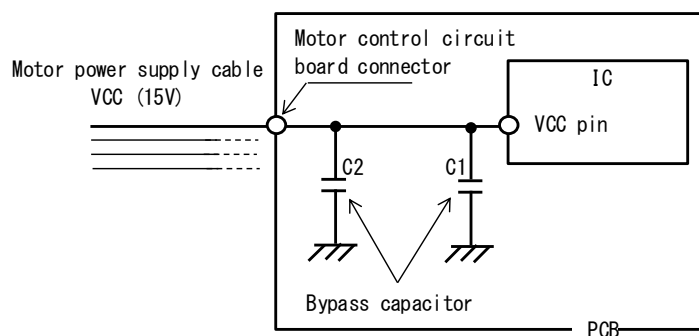

FIGURE 5.5.1 Example of Mounted Surge Suppression Devices
- ① Mount a bypass capacitor C1 near the pin of the IC. Use a capacitor that has excellent frequency characteristics, such as a ceramic capacitor. As a guide, a capacitor of around 1μF is recommended.
- ② It is more effective to mount a surge suppression device, such as bypass capacitor C2 shown in Fig. 5.5.1, close to the connector of a motor control circuit board.